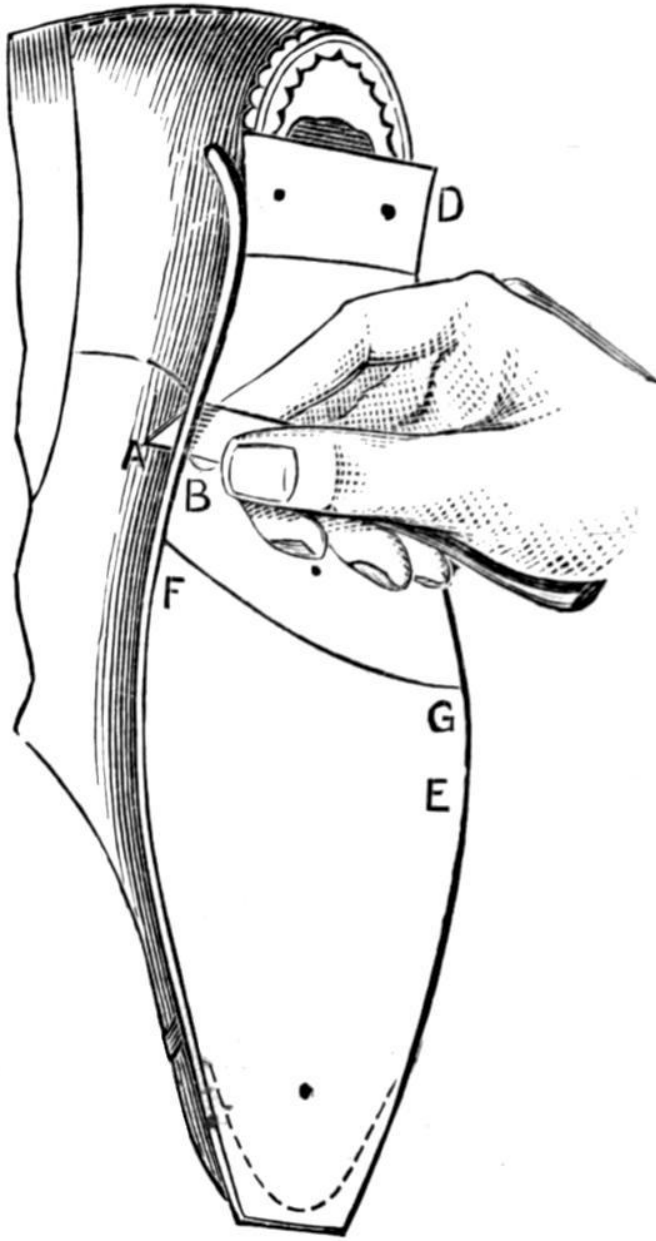

Fig. 95.—Rounding up the Sole.
The boot should be held firmly with the left hand upon its side on the knees. The knife must be very sharp, and held in the right hand. The point should lie on the first finger, the thumb on the top of the blade, and the rest with the handle held firmly in the hand. The point should overhang the side of the finger only just the substance of the sole, and not as shown at A in Fig. 95, which would cut the upper of the boot. The finger is kept against the sole, as shown at point B, and forms a guard to the knife. The piece (C) need not be taken off at one cut; so as not to go too far, it can be pared in very small pieces, and the shape of the boot obtained gradually.
This paring is continued all round, but at c and d the leather will be wanted to make the seat with and to cover the stitches; so the cut must not be close. As the upper does not overhang the sole so much towards the toe, more liberty may be given to the knife. The welt and sole should be pared closer at E than at F (Fig. 95); starting very close at G, it becomes gradually wider until reaching F, and similarly narrower until reaching B, and the ends of the waist C and D should match.